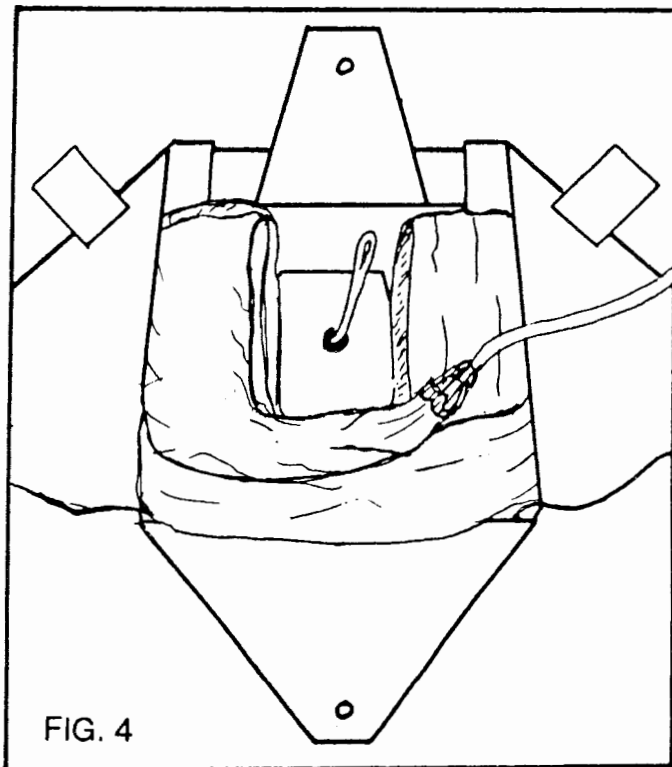

FIG. 4
6) Make two folds up and down the left side of the container and then back across the bottom again as shown in FIG. 4. The rigger may vary the number of folds on each side and the number of passes across the bottom in order to evenly distribute the bulk. The object is to make a "U" shaped pack as symmetrical as possible, with both bottom corners of the container well filled.